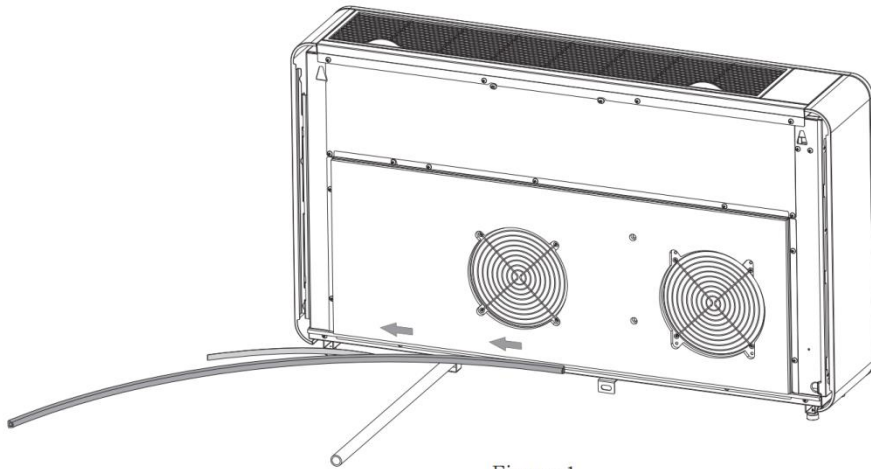

Figure 1
- 1.The sealing strip should be pasted along the edge of the machine, as shown in Figure1.